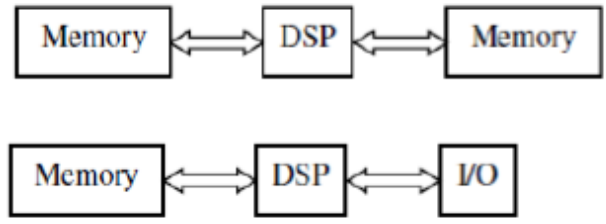
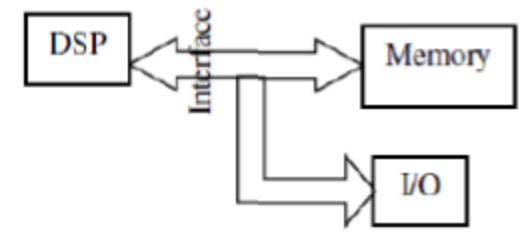

Fig. 7.11: Data transfer with intervention by DSP
Fig. 7.10: Interface between DSP and external devices
- In any application, there is data transfer between DSP and memory and also DSP and I/O device, as shown in fig. 7.10. However, there may be need for transfer of large amount of data between two memory regions or between memory and I/O. DSP can be involved in such transfer, as shown in fig. 7.11.